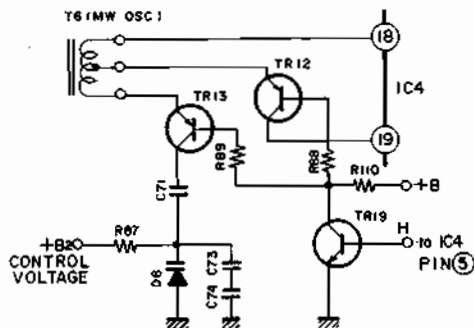

Fig. 6-7 MW OSC
- 1) For MW, the pin ⑤ of IC4 is at "H" level, and so TR19 is ON, TR16 OFF, TR12 and TR13 ON, TR20 is OFF and so TR14 and TR15 are OFF. This means that T6, C71, C73, C74 and D8 are connected through TR19, TR12 and TR13, to create the MW OSC state (refer to Fig. 6-7).